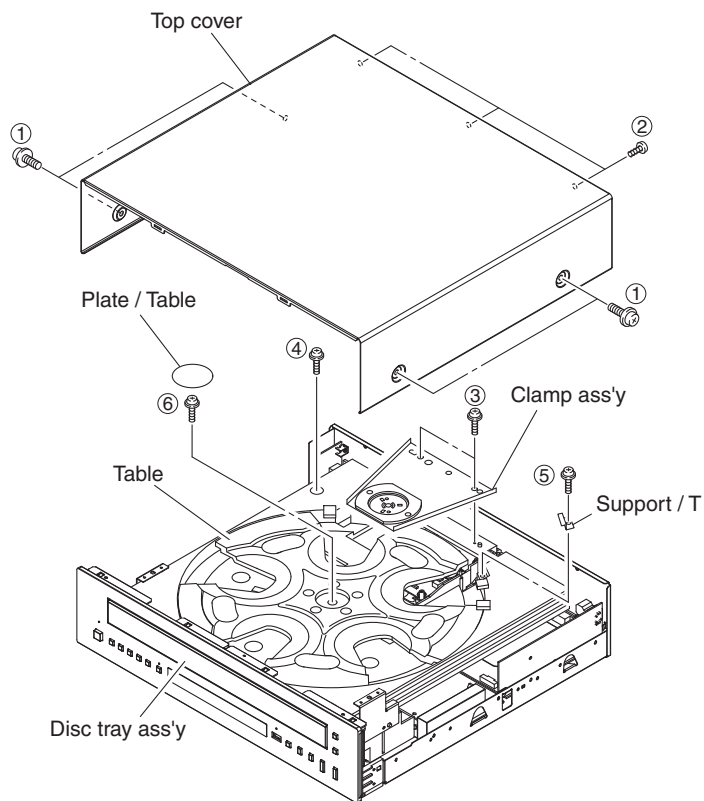

Fig. 1
- Remove 4 screws (①) and 3 screws (②). (Fig. 1)
- Remove 2 screws (③). (Fig. 1)
- Remove the clamp ass'y. (Fig. 1)
- Remove screw (④). (Fig. 1)
- Remove screw (⑤) and then remove the support/T. (Fig. 1)
- Remove the plate/table. (Fig. 1)
- Remove screw (⑥) and then take off the table. (Fig. 1)